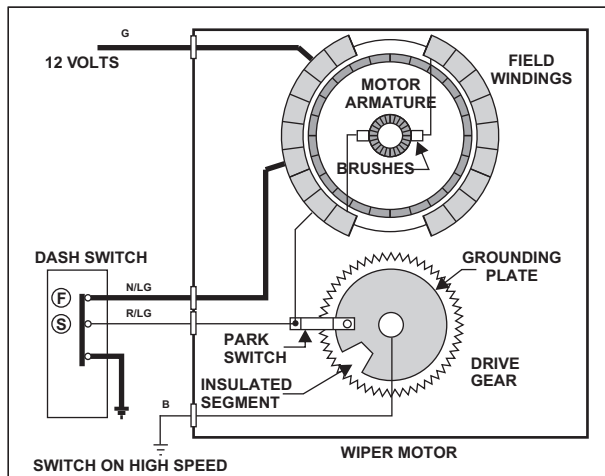

FIGURE 2
**HIGH SPEED OPERATION:** Refer to **figure 2**, next page. In this mode, both terminal "S" and terminal "F" of the dash switch have been shorted to ground. The wiper switch has actually shorted out a portion of the field winding, reducing the field strength. Though an